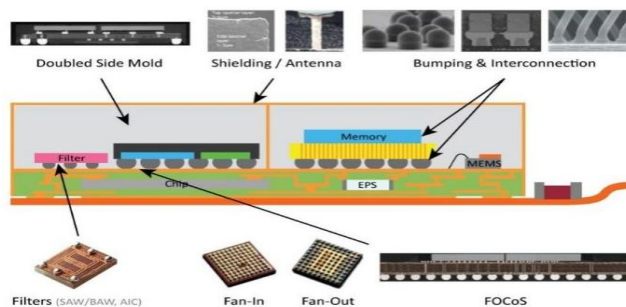

Fig. 1.19: Advanced IC Packaging
7.Advanced IC Packaging – In recent years, chip packaging has become a hot topic along with chip design. The traditional way to scale a device based on Moore’s law has limitations nowadays. The other way to get the benefits of scaling is to put multiple complex devices in an advanced package. (Figure 1.19) So, semiconductor manufacturers develop new advanced IC packaging technologies to provide greater silicon integration in increasingly miniaturized packages. This also enables manufacturers to offer customization and improve yields by vertically stacking modular components.